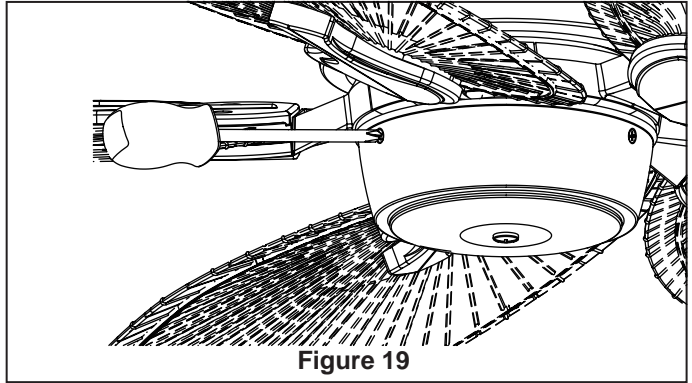

Figure 19
5. Assemble the Housing Switch Cup onto the assembled Adapter with three screws. (Figure 19)